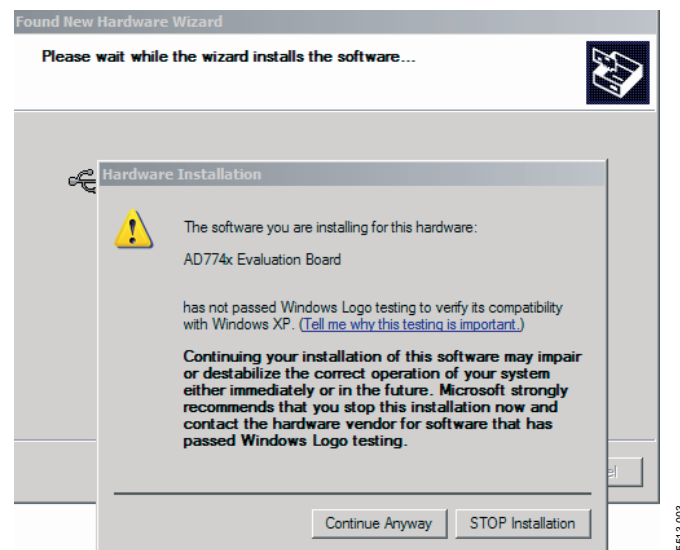

Figure 5. Windows Logo Warning
4. Follow the steps in the **Found New Hardware Wizard** window. If a message that the software has not passed Windows® Logo testing appears, click **Continue Anyway** (see Figure 5).